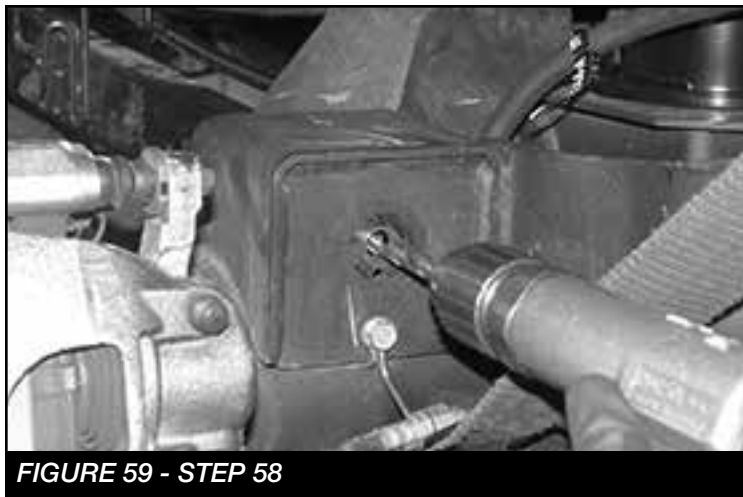

FIGURE 59 - STEP 58
58. Next, using a $\frac{1}{2}$ " bit, drill the old brake line bracket hole to allow for the new track bar support bracket in a future step. **SEE FIGURE 59**